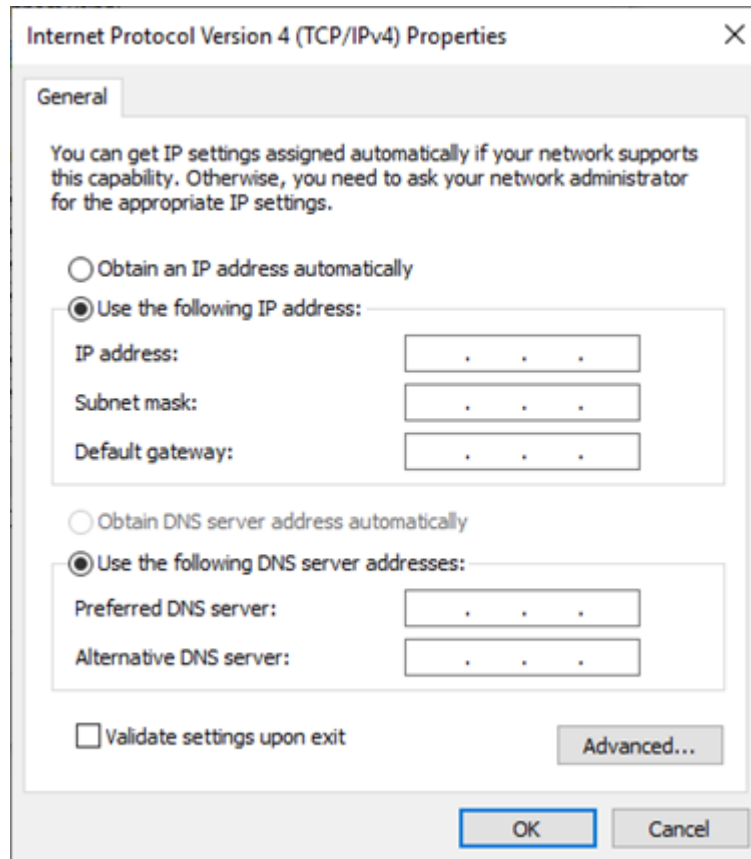

Figure 3. Setting the IP Address - Internet Protocol Version 4 Properties window
2. Click the "Advanced..." button of the General tab (see Figure 3).